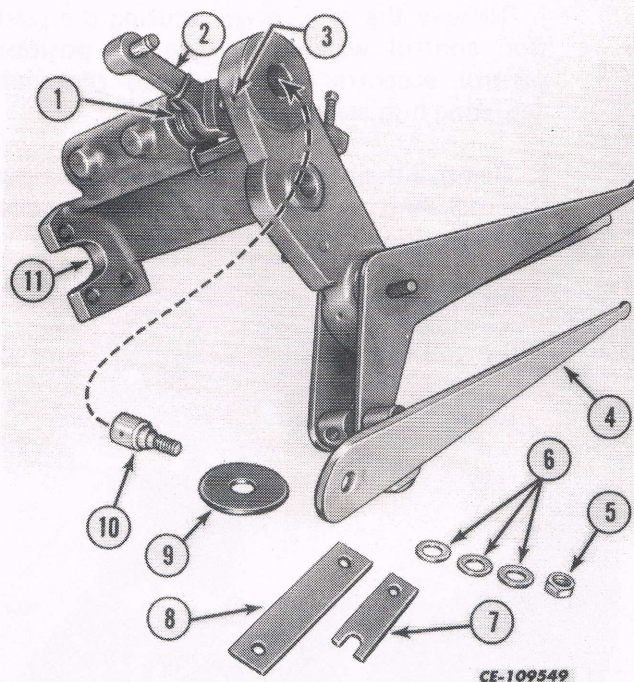

Fig. 17
e. Remove the flow control adjusting lever assembly (4) and friction disc (9). See Fig. 17.
f. Remove the roll pin and pivot bolt (10) from the support assembly (11). See Fig. 17.